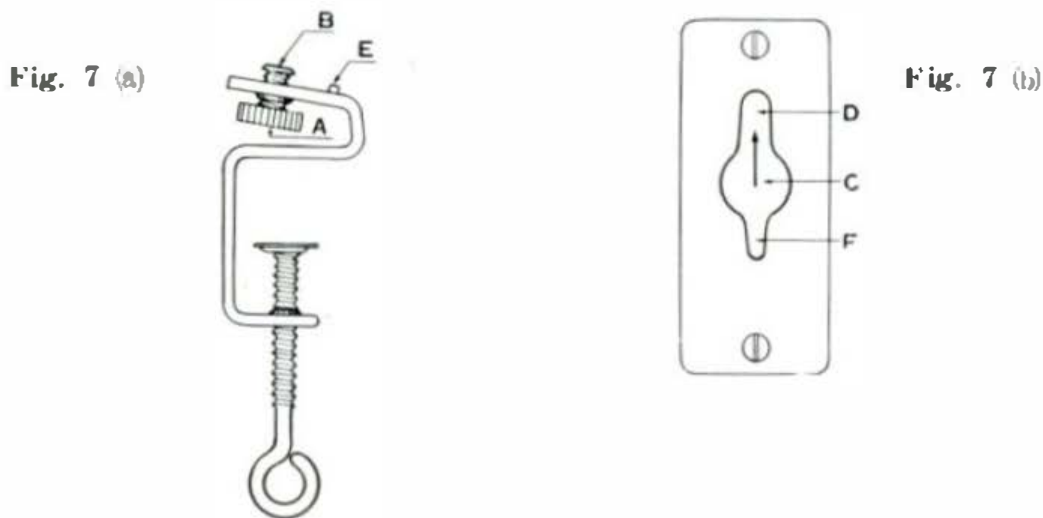

Fig. 7
Remove the table clamps from the accessory box. Raise the front of the knitter, insert the head of screw (B) into the aperture (C) Press upwards so that the head of screw (B) is in position (D) and fasten the knob (A). Fasten the knitter to the table by tightening table clamps. It is essential that boss (E) fits snugly into aperture (F). (See Fig. 7.)